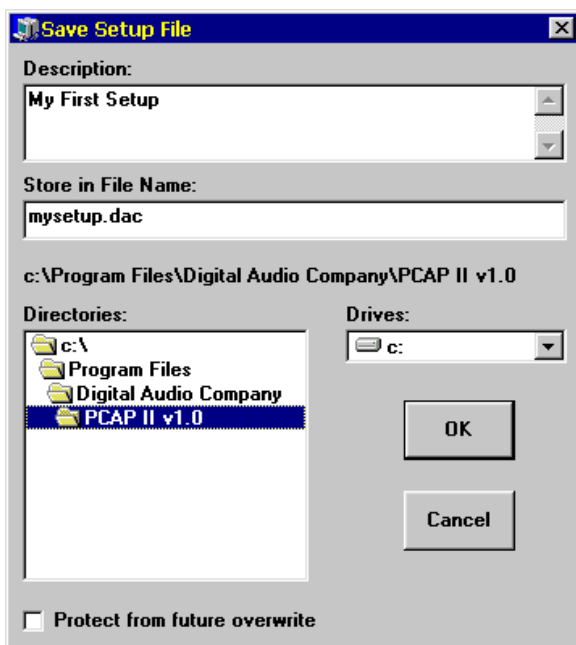

Figure 3-19 Tutorial Store in File Name Text Box
58. Click your mouse cursor on the **Description** text box, which should currently contain the word **Unnamed**. Using your keyboard, delete all characters in the text box, then type in **My First Setup**. See Figure 3-19.
59. Now click your mouse cursor on the **Store in File Name** text box. Use the left arrow key to move the cursor to just before the **.DAC** extension, then type **mysetup**. These entries should appear as in Figure 3-19.